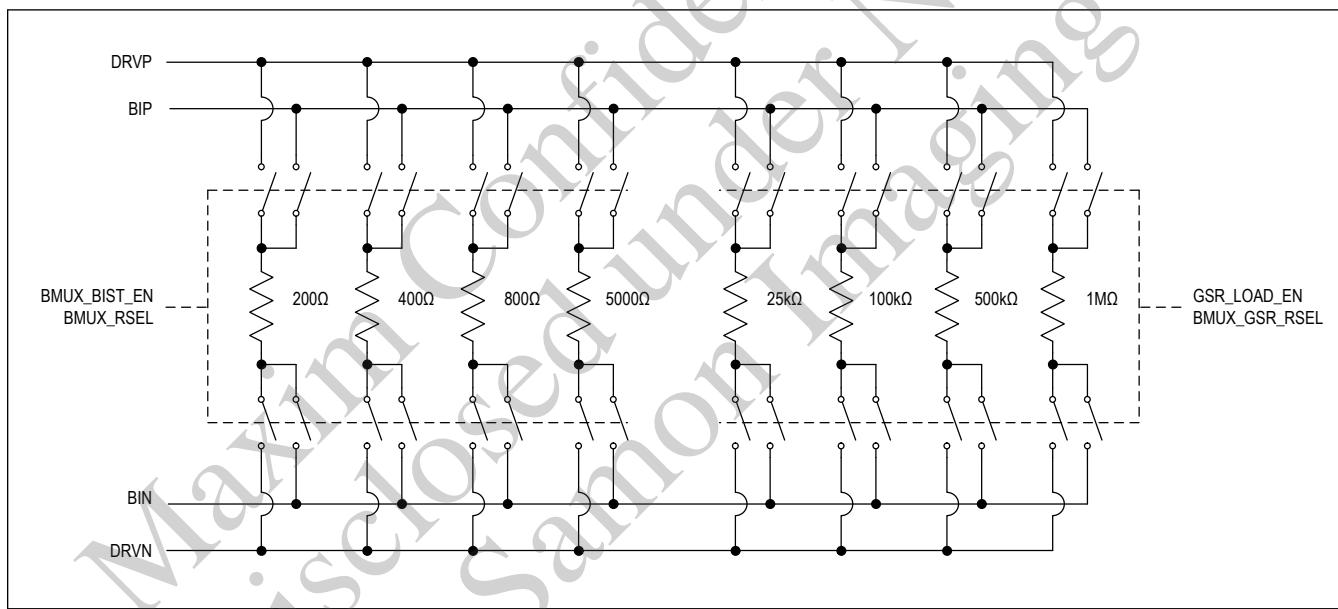

Figure 45. Programmable Resistor Load
The programmable resistive load allows a built-in self-test of the current generator (CG) and the BioZ receive channel. Refer to Figure 45 for implementation details. For BIA/BIS applications, there is a selection of low-impedance loads from which to choose: 200 Ω , 400 Ω , 800 Ω , and 5k Ω . For GSR/EDA applications, there is a selection of high-impedance loads from which to choose: 25k Ω , 100k Ω , 500k Ω , and 1M Ω .